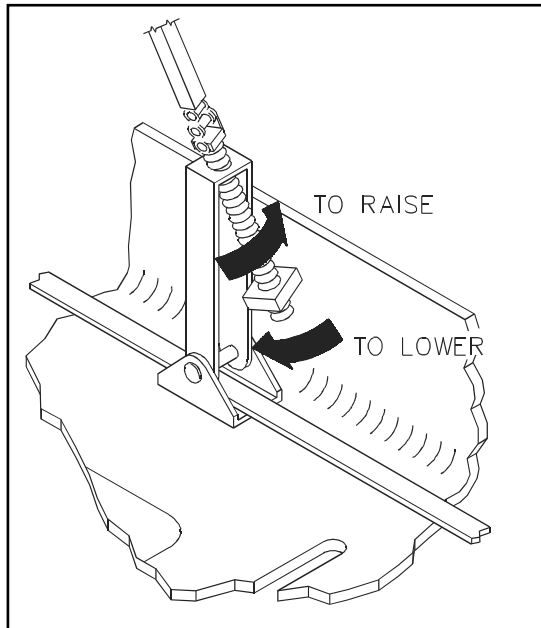

FIGURE 2-17: PLATFORM SUPPORT CHAIN ADJUSTMENT
- b. Refer to **Figure 2-17**. Using control pendant, position lift DOWN to slightly above ground